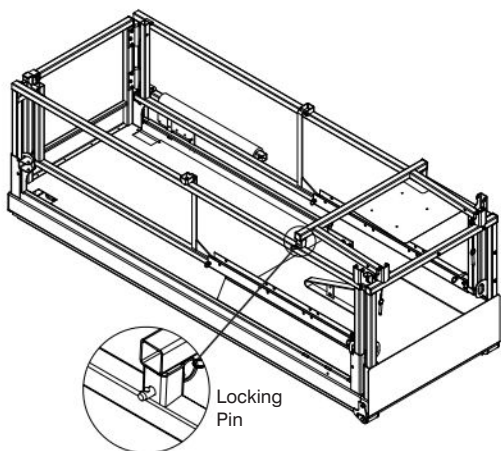

Figure 3-12d. All Guardrails Folded Down
Lock extension guardrail into place on the mounting post. Ensure that the detent ball of the pin is all the way through (Refer to Figure 3-12d).
6. Remove locking pin from mounting post and carefully raise extension guardrail up and lock into place with locking pins ensuring that the detent ball of each pin is all the way through (Refer to Figure 3-12d).